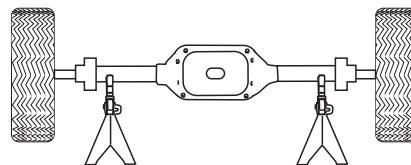

fig. 4
1. Raise the vehicle with a hoist or jack stands and remove the wheels (fig. 4).